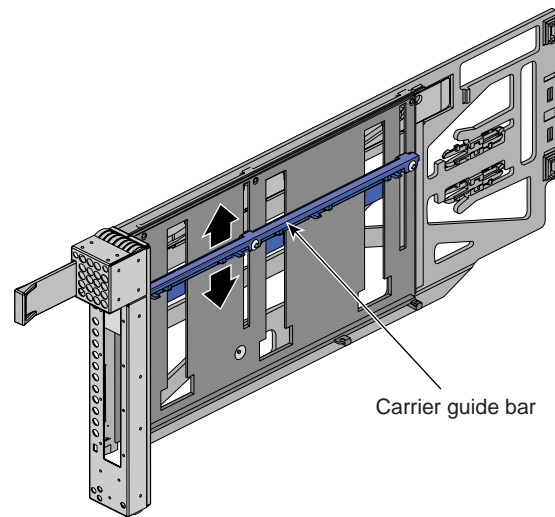

Figure 6-17 Adjusting the Carrier Guide Bar
- b. Adjust the carrier guide bar (also known as the alignment rail) up or down as necessary (see Figure 6-17).